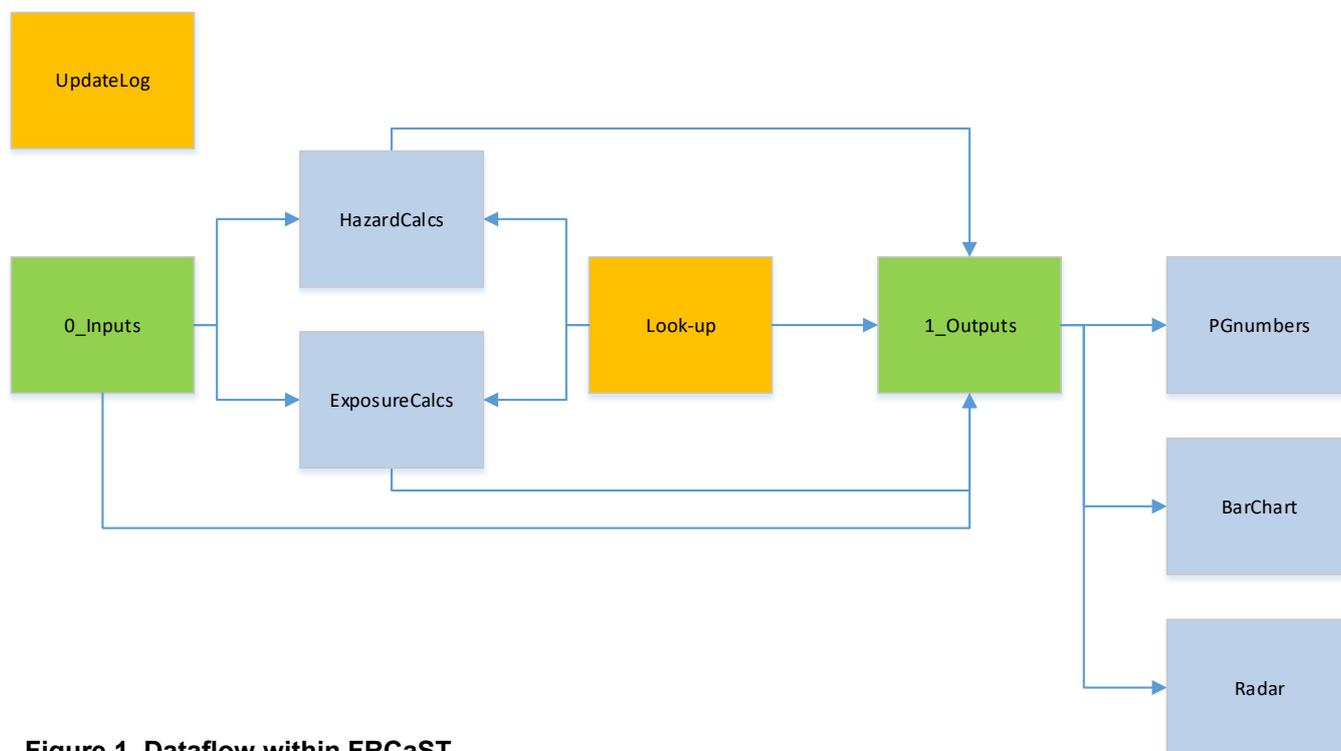

Figure 1. Dataflow within FRCaST
5. Figure 1 shows the interrelationship of the various worksheets within FRCaST in terms of the flow of data between the different worksheets.